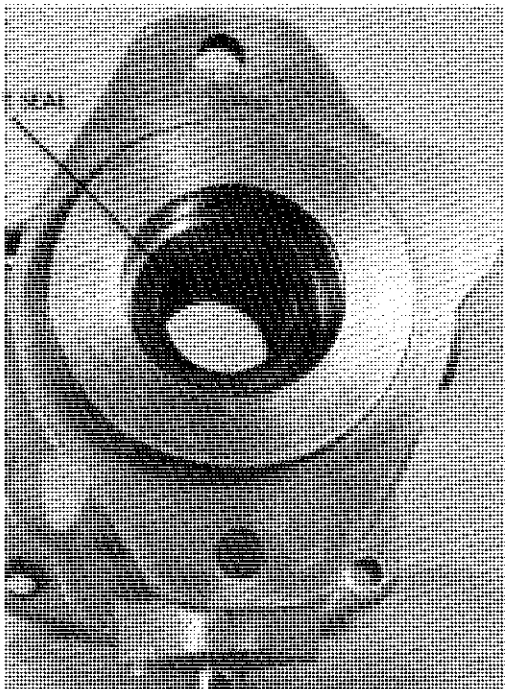

Figure VI-41. Removal and Replacement of Motor or Pump Shaft Seal
- Shaft seal should be properly seated and bottomed out against the shoulder of the recess as shown in Figure VI-41.